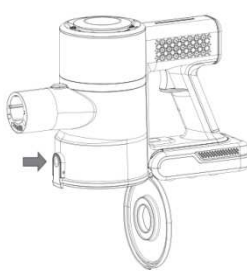

Fig 1
- 7. Press release button, the bottom late will drop down automatically, Fig 1.